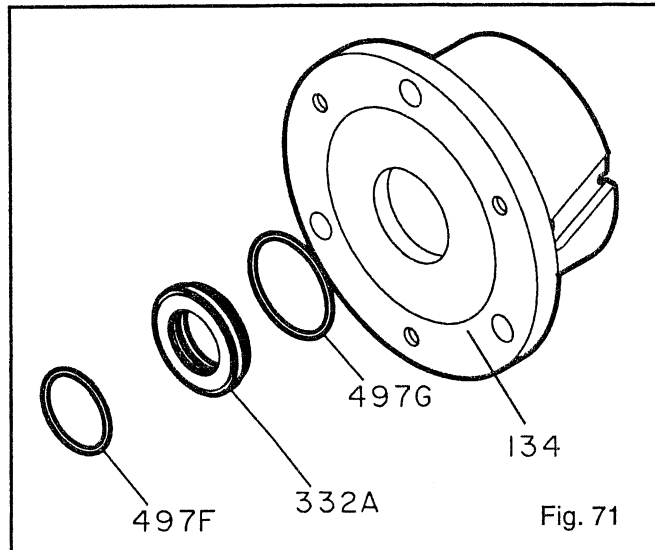

Fig. 71
10. Remove outboard labyrinth seal (332A) from bearing housing (134). Remove O-rings (497F), (497G) if necessary (Fig. 71).